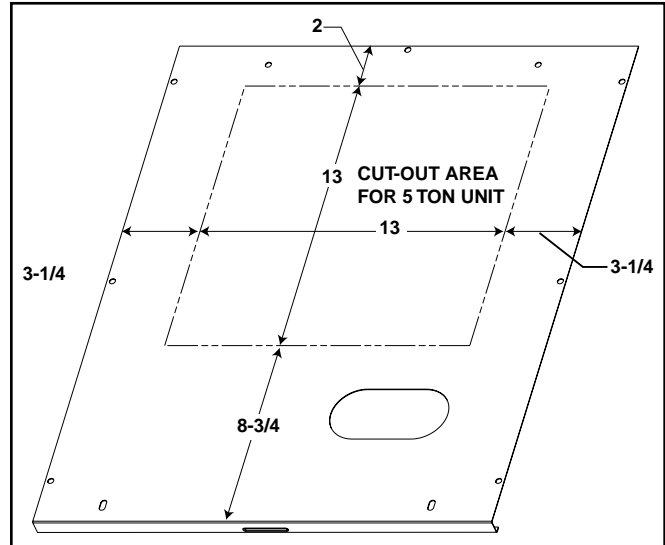

Figure 3
1. Cut out an area on the top of the downflow coil box as shown in Figure 3.